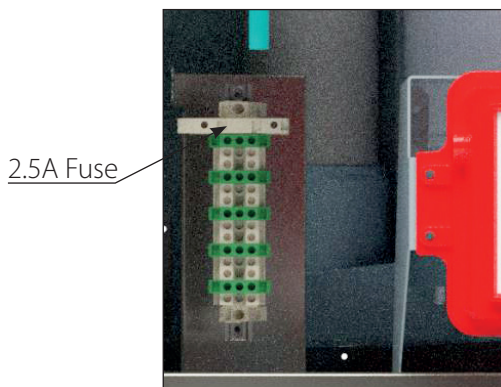

Fig. 25 - Terminal Strip Location
- A 2.5A fuse is also located on the terminal strip, to protect the outputs. Refer to *Fig. 25*.
1. Connect a dedicated 120 VAC/15A service to the line voltage terminals located internally in the lower left corner, as shown in *Fig. 25 below*.
2. Connect the CH1 & CH2 circulator wiring to the respective line voltage terminals located internally in the lower left corner, as shown in *Fig. 25 on the left*. This circulator is typically used to supply heat to the central/ space heating loop.
3. Connect the DHW circulator wiring to the line voltage terminals located internally in the lower left corner, as shown in *Fig. 25 on the left*. This circulator is typically used to supply heat to an indirect hot water heater.
4. Connect the boiler system pump wiring to the line voltage terminals located internally in the lower left corner, as shown in *Fig. 25 on the left*.